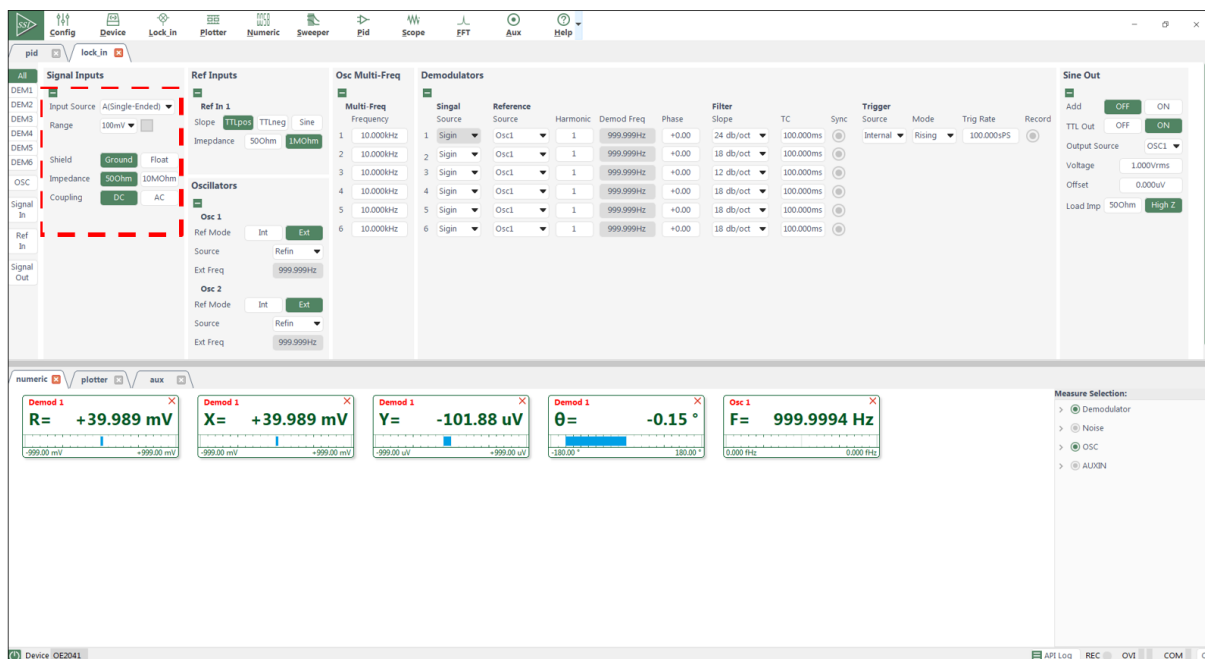
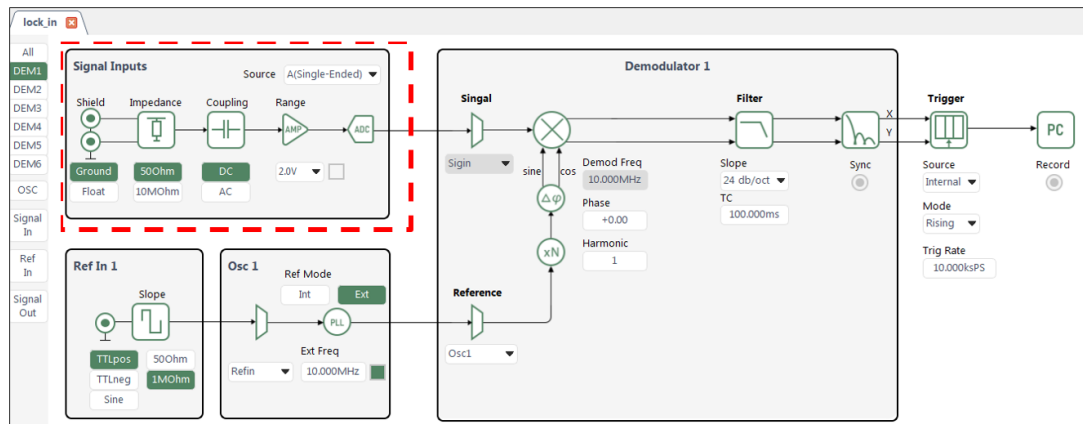

Figure 31. Input Signal Configuration Area
Figure 32. Input Signal Configuration Area in the Flow Diagram
1. According to the configuration in Table 2, modify the input signal type, input coupling, and input range in the input signal configuration area. Keep the other options at their default values. As shown in Figure 31 and Figure 32, select either method to make the changes.